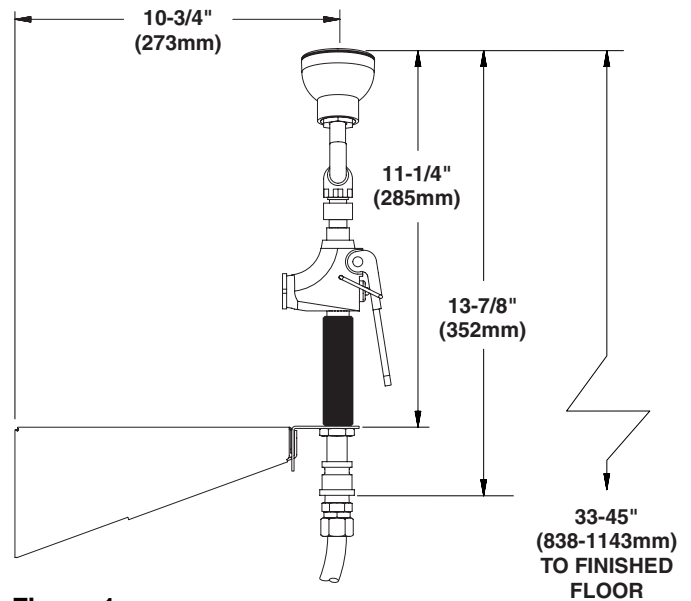
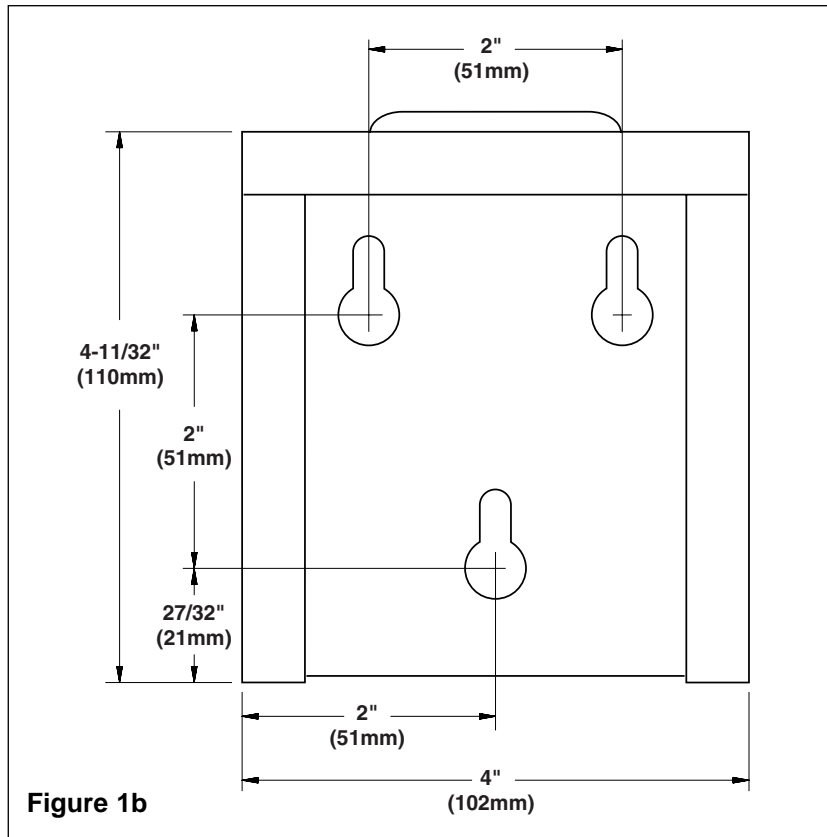

Figure 1a
Figure 1b
1. Install three suitable wall anchors for use with 3/8" bolts (supplied by installer) into the wall at the desired location (see Figure 1a for eye wash dimensions and Figure 1b for bracket dimensions).